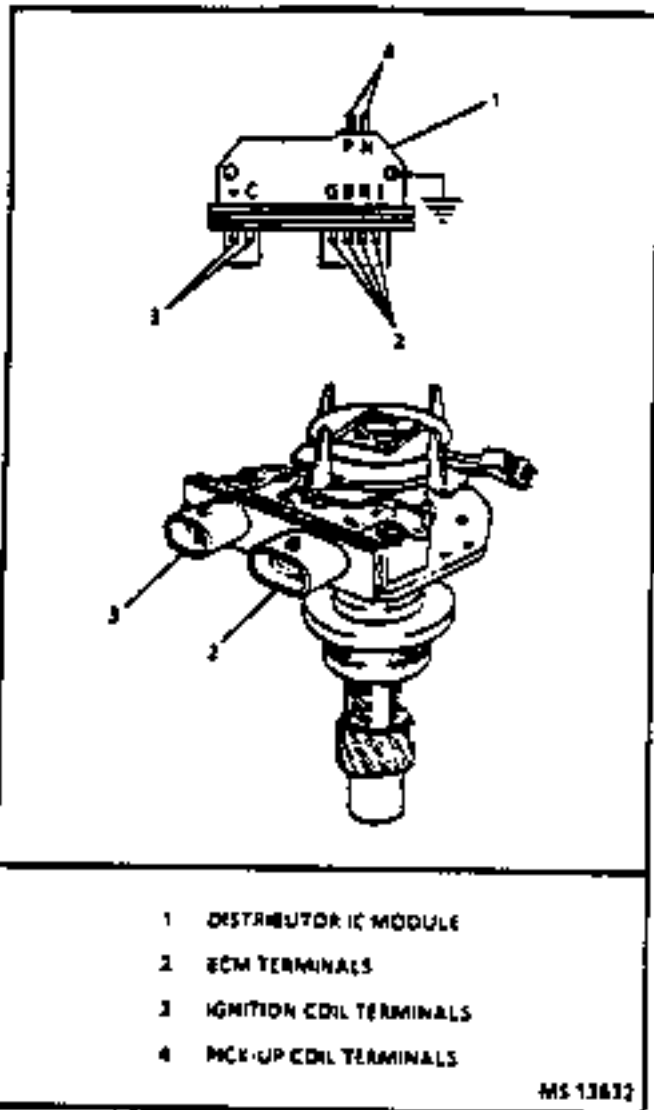

Figure 3 - IC Module Terminal Identification
IGNITION CONTROL (IC) MODULE Figure 3
The Ignition Control (IC) module is located in the distributor (Figure 3). It is mounted by two screws and they are used for ground. The IC module is a solid state unit with transistorized relays and switches for controlling circuits. The IC module has several functions: